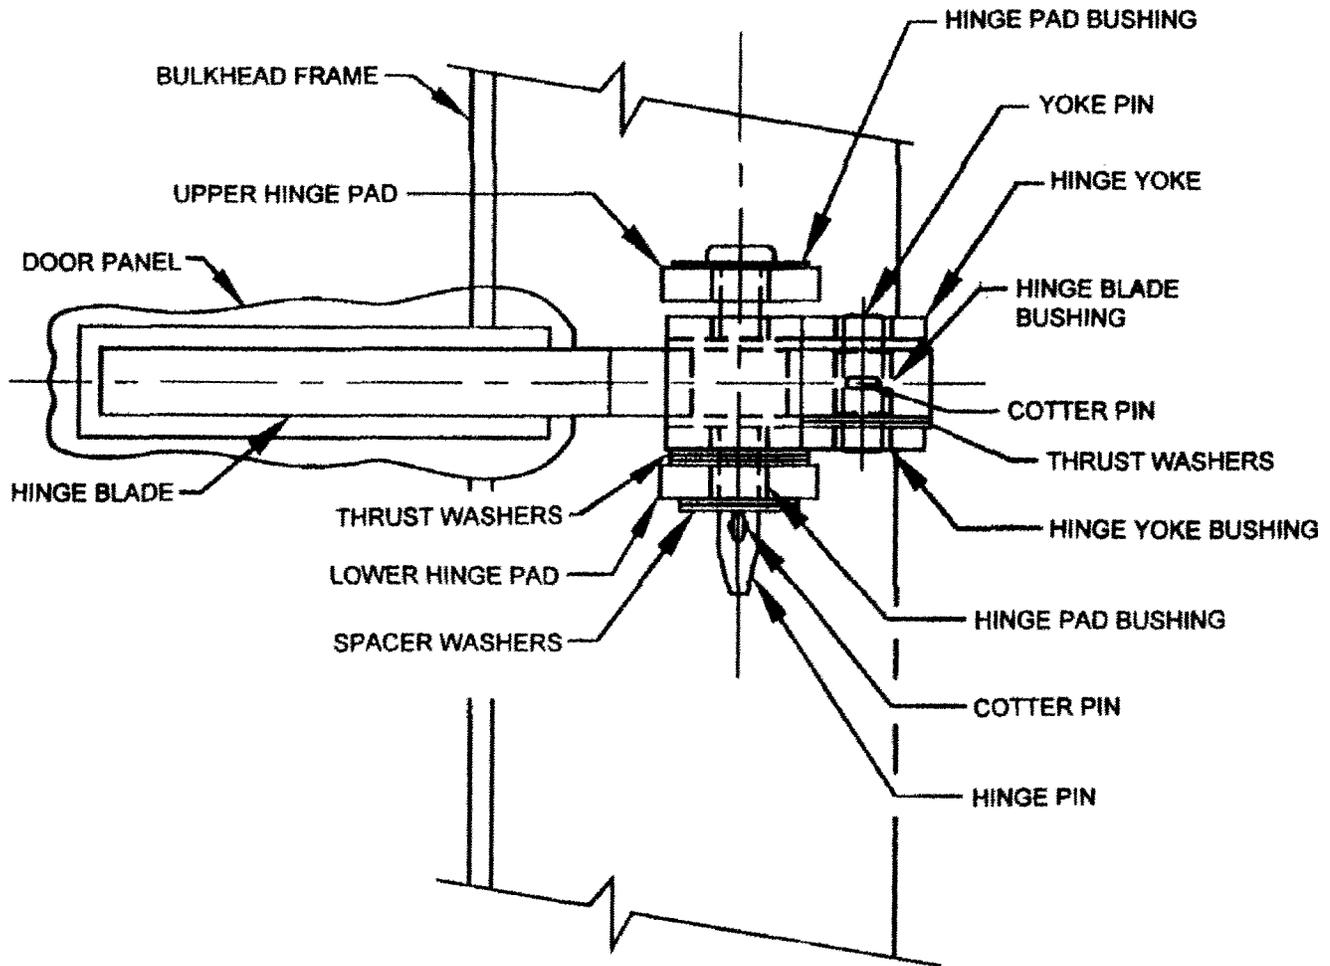

Figure 1-24. Quick-Acting Watertight/Airtight Door Hinge Assembly Modified by MACHALT 167-31011 (ECP-538)
- g. MACHALT 167-31011 (ECP-538) replaces all existing replaceable components in the hinge assemblies of quick-acting watertight/quick-acting airtight (QAWT/QAAT) doors in high traffic locations with upgraded pins and thrust washers. Self-lubricated bushings are installed to correct recurring wear and maintain the integrity of the QAWT/QAAT doors. (See figure 1-24.)